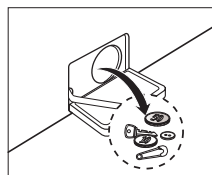

Fig. 14
- Remove foreign objects/fluff from inside and clean the interior. (Fig.14)